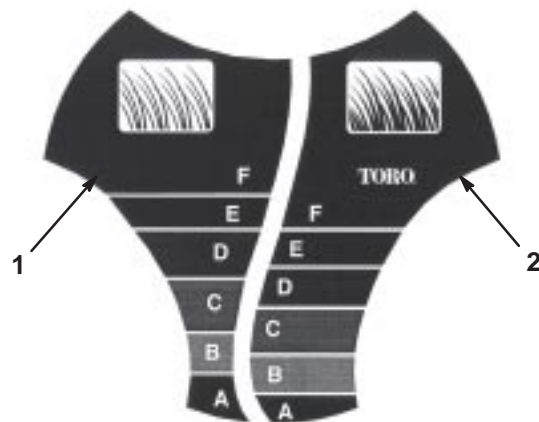

Figure 12
The *SmartWheel™* has two cutting scales: *Sparse/Normal* and *Lush*—to ensure the best cutting height setting in any mowing condition (Fig. 12). Use the *Sparse/Normal* scale during the warm summer season for the majority of your mowing. The *Lush* scale is for thick, moist, and succulent grass that grows most often in the spring.
2. Move the lawn mower into the grass; stop moving the lawn mower when the *SmartWheel* design on one of the rear wheels is upright (Fig. 12).